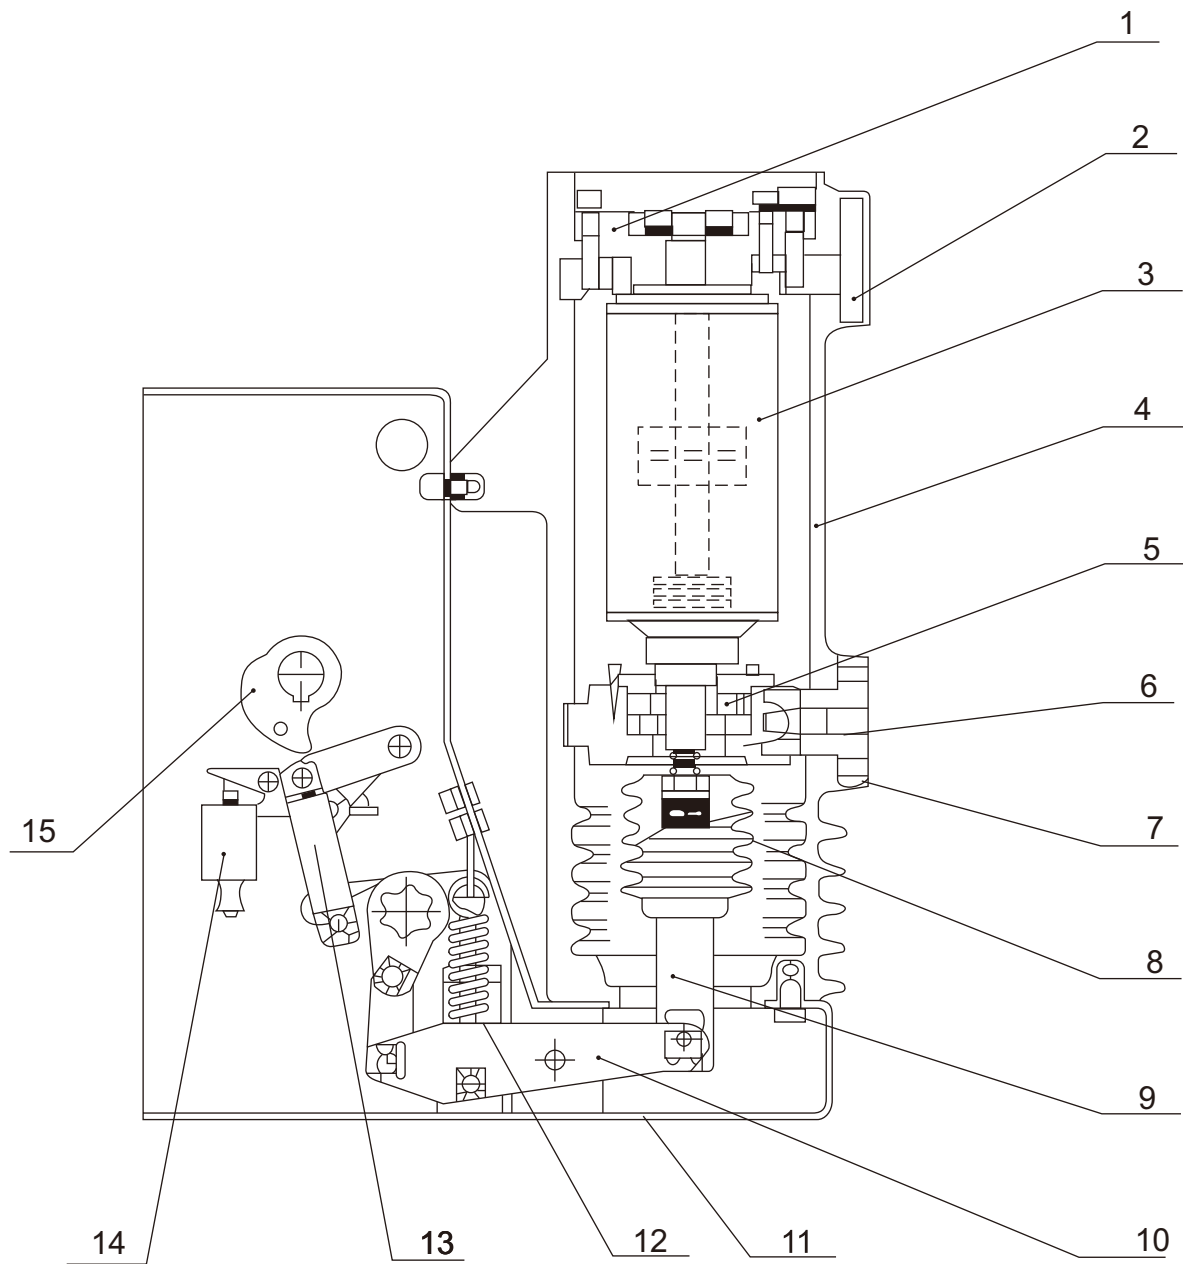
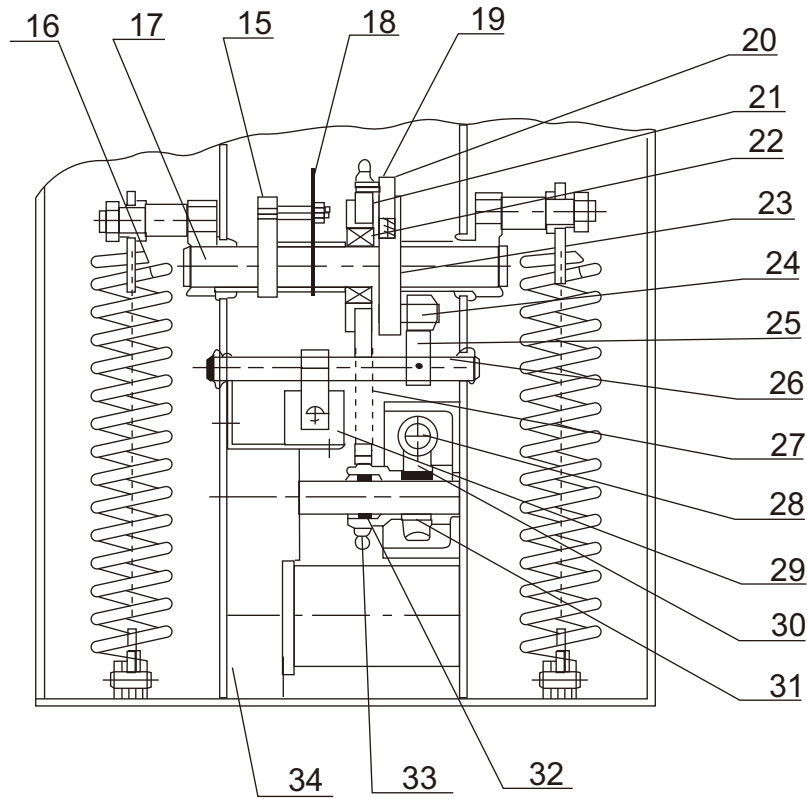
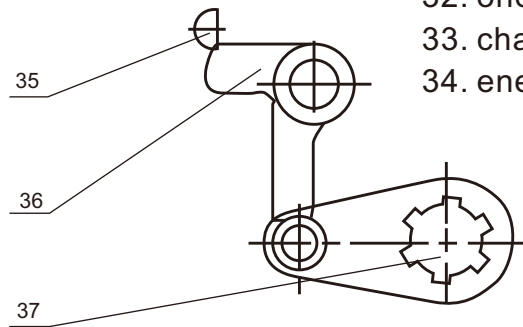

Figure 6
Figure 7
Figure 8
- ◆ Circuit breaker outlook and install dimension see figure 1 to figure 6
Fixed type VS1 out dimension (figure 6)
5.3 Working principle see figure 6, figure 7, figure 8.